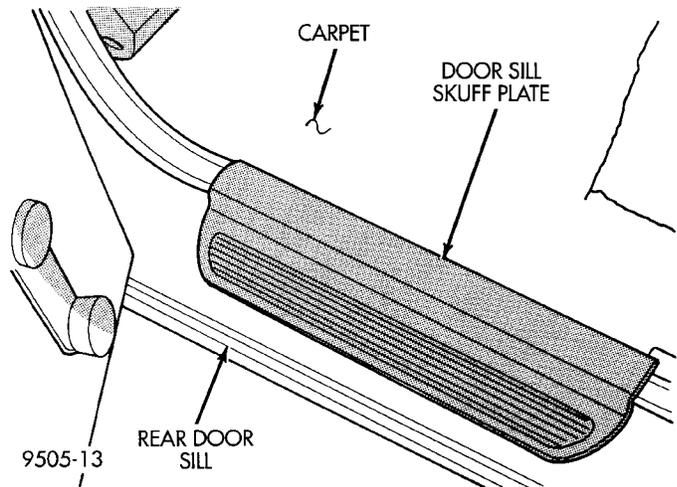

Fig. 139 Rear Door Sill Scuff Plates
(8) Remove rear seat cushion from vehicle.
(9) Remove scuff plates (Fig. 139) from right and left rear door sills. Scuff plates are attached to door sills using clips on bottom of scuff plates. Remove by carefully prying scuff plate retaining clips out of door sills.